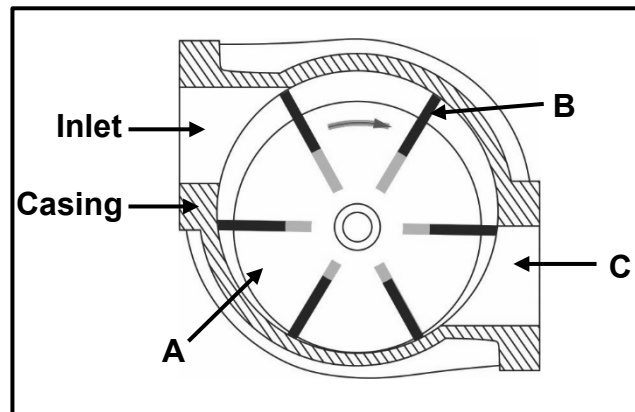

FIGURE 6.8
6.8 FIGURE 6.8 below shows a vane-type supercharger. Label **A–C**.